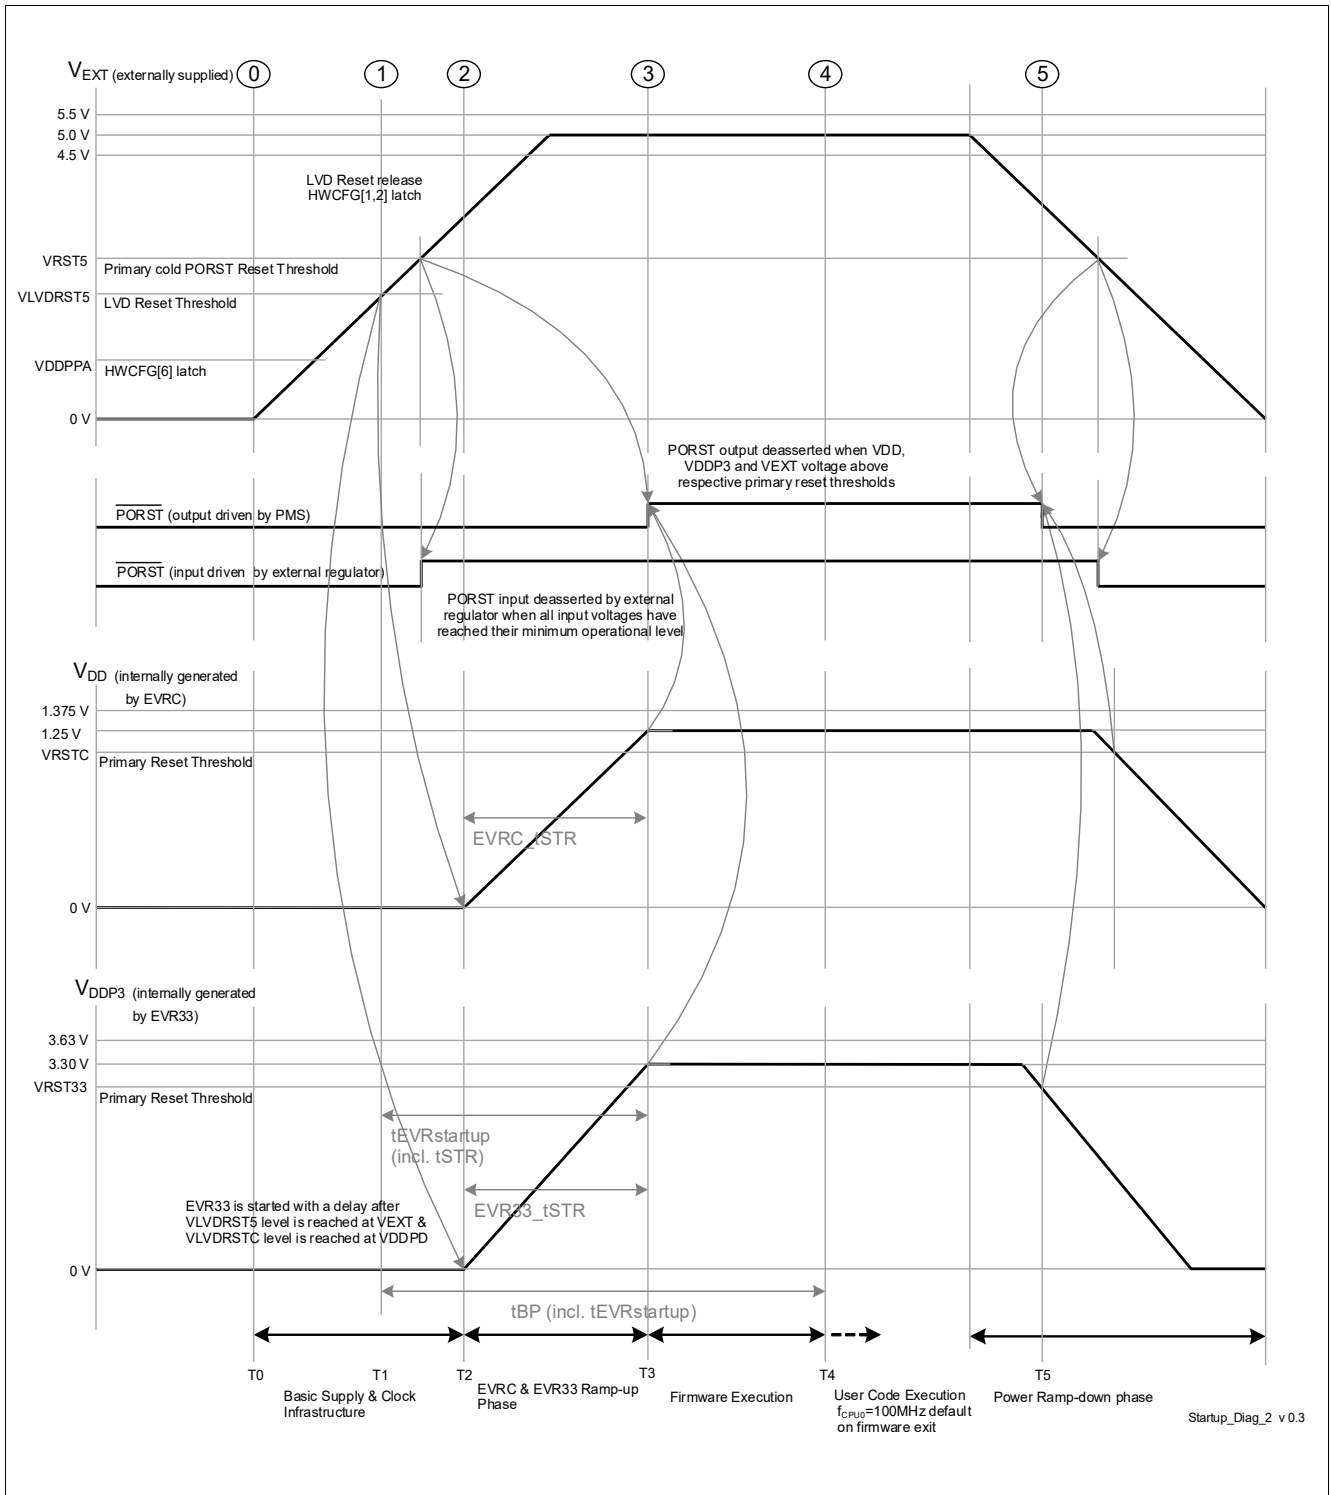

Figure 3-2 Single Supply mode (a) - V_{EXT} (5 V) single supply
- The power sequence as shown in Figure 3-2 is enumerated below